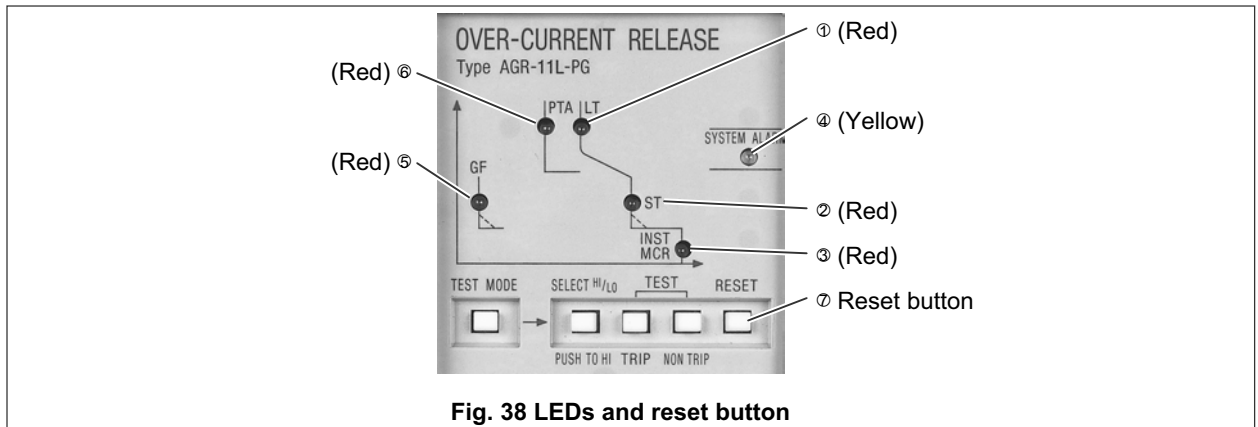

Fig. 38 LEDs and reset button
The OCR has LEDs on the front panel to provide operation indications as shown in Fig. 38 and Tables 22 and 23. It also outputs operation signals to contacts. To reset LEDs or contact output, press the reset button (Fig. 38 ⑦) or isolate the control power (Fig. 10 ㉑, ㉒, ㉓) for at least 1 second.